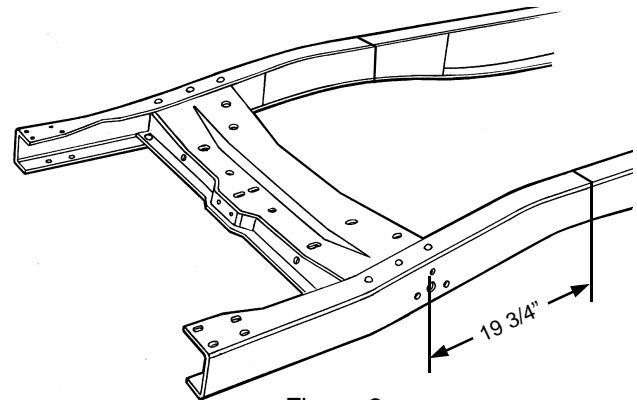

Figure 2
4. Measure back 19-3/4" from the center of the front shackle hole in the frame and scribe a line around the rail. See Figure 2. This scribed line is the spindle centerline.